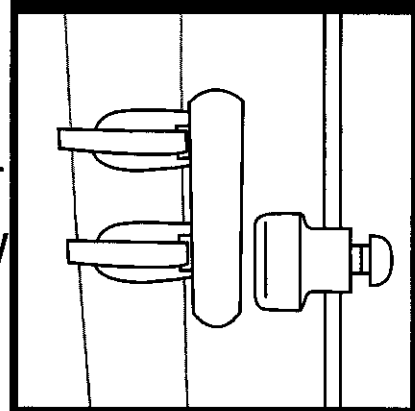

Fig. 19
2. Attach the wheel magnet to the spoke, aligning the magnet with the sensor (Fig. 19). The magnet should have 3-5 mm clearance from the sensor. If the sensor and magnet are too close, or touching, rotate the sensor unit away from the magnet until adequate clearance is achieved.